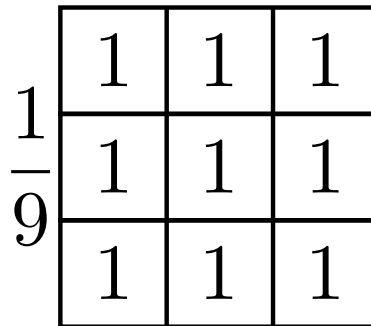

Figure 8.2: A Simple Box Filter
- c. What is the function the the box filter in Figure 8.2? How does it do this?